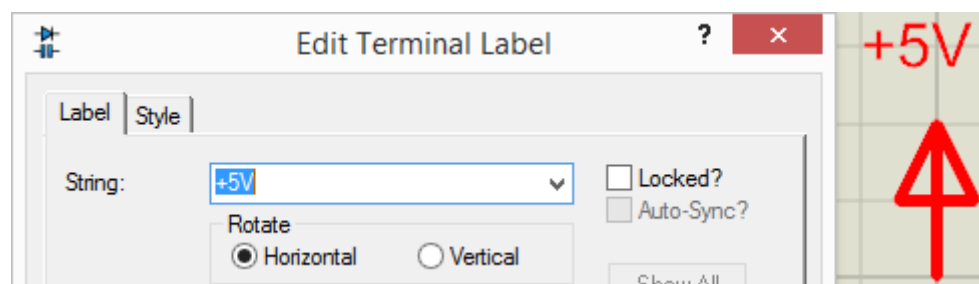

Figure 6-16: Edit Terminal Label dialog
- g. Name the 5 x DEFAULT terminals which are connected to the LEDs from IO3 to IO7 (IO3, IO4, IO5, IO6, IO7). Note that the names consist of the letters “i” and “o” (for input/output), and then the numbers 3-7. Please see section 6.3.6.2 / Figure 6-16 if you need a reminder (right-click on the terminal and then select Edit Properties from the popup menu – enter the terminal label / name and click “OK”). By naming these terminals from IO3 to IO7 we are connecting them to the corresponding terminals at the Arduino Uno microcontroller pins.
- i. Set the POWER terminal to +5V (please see section 6.3.6.2 / Figure 6-16 if you need a reminder).